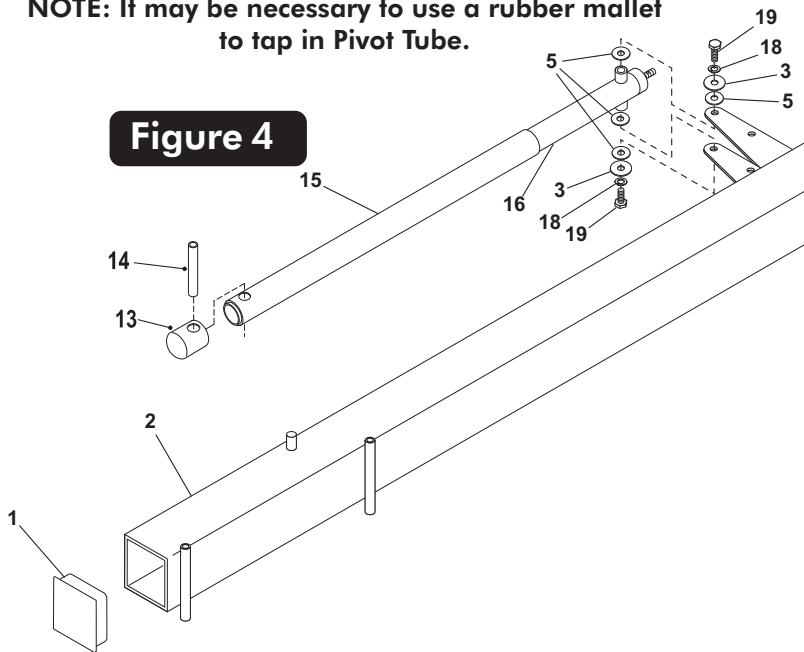

Figure 4
2. If not already pre-assembled, slide Plastic Actuator Sleeve (#15) over Steel Actuator (#16) and place Actuator Cap (#13) on top. **Align holes in all 3 parts** and slide Pivot Tube (#14) through holes in Actuator Cap (#13) Plastic Actuator Sleeve (#15) and Steel Actuator (#16) until equal amounts stick out through both sides of actuator. See Figure 4.
3. Lay Pole (#2) on its side on two padded saw horses. Secure Actuator (#16) to Pole (#2) using one bolt (#19), split lockwasher (#18), washer (#3) and two plastic washers (#5) to thread into each side of Actuator. See Figure 4. Tighten bolts tight.
4. If not already pre-assembled, insert Pole Cap (#1) into top of Pole (#2). It may be necessary to use a rubber mallet to tap cap in. See Figure 4.